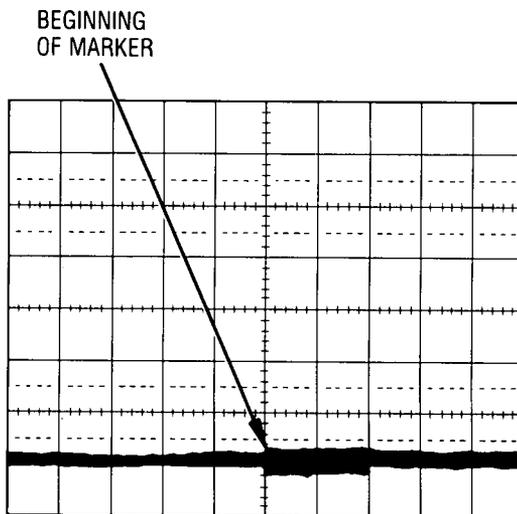

Figure 5-31. Z-Axis Marker Waveform
9. On the oscilloscope, position the marker to center screen with horizontal position control. Press oscilloscope **MAG × 10**. Reposition the beginning of the marker at center line of screen with the horizontal position control. (See Figure 5-31.)